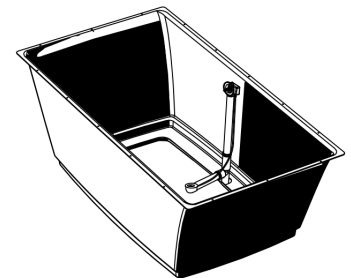

Figure 3
11. Connect waste/overflow per local standards. *If there is no access to tub from below, it may be necessary to connect waste/overflow assembly to house plumbing before step 8, then securing drain fitting and overflow to tub after tub is set in apron (figure 3).*